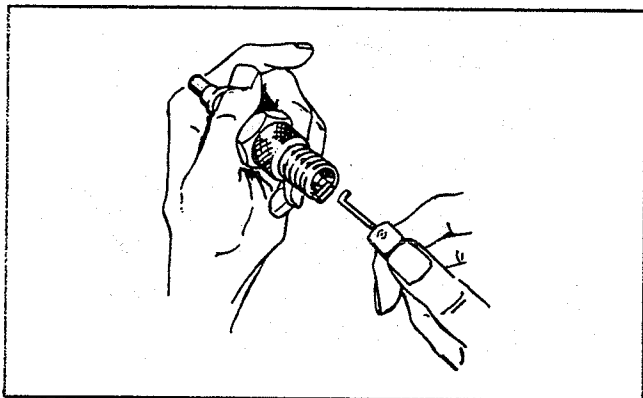

Figure 28. Setting spark plug gap.
**CHANGE SPARK PLUGS:** See figure 28. Remove the two spark plugs from the engine and install new ones every 100 hours. Use Champion H-8 or equivalent. Before installing new plugs, set the gap at 0.025 inch.